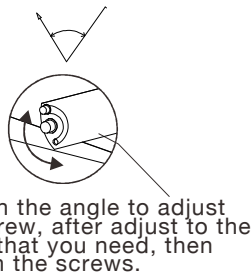

Figure 14
**STEP 3:** Connect the fixture to the bracket and tighten the screws; connect the wires properly (FIGURE 14)
**NOTICE:** Adjustable angle is 0~±194° (FIGURE 14)